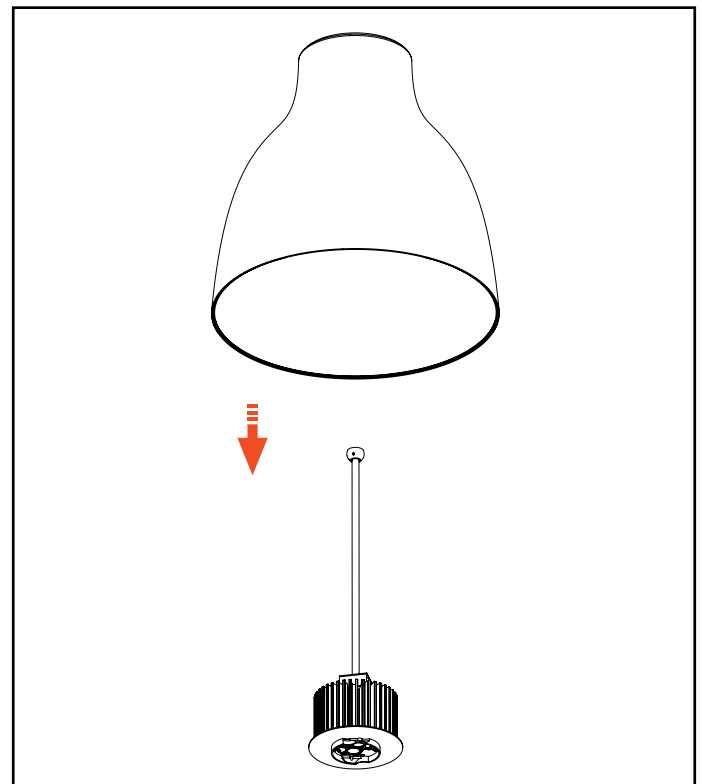

Figure 21
7. Carefully insert the new shade assembly from the top of the stem by inclining it and sliding over the shroud (Figure 21)
8. Place **Canopy Cover (H)** on **Stem (I)**